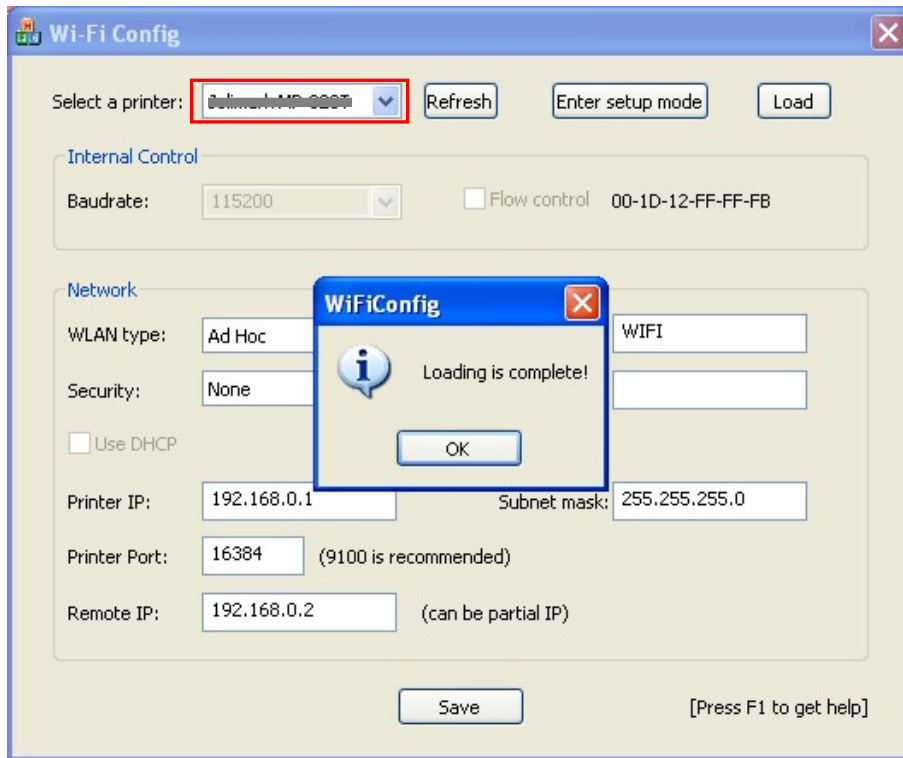

Figure 3
3. Click “Load”, the computer will load the information of the printer and display it on the WiFiConfig software. Click “OK” in the dialogue box “Loading is complete” that pops up. (As figure 3 shown)